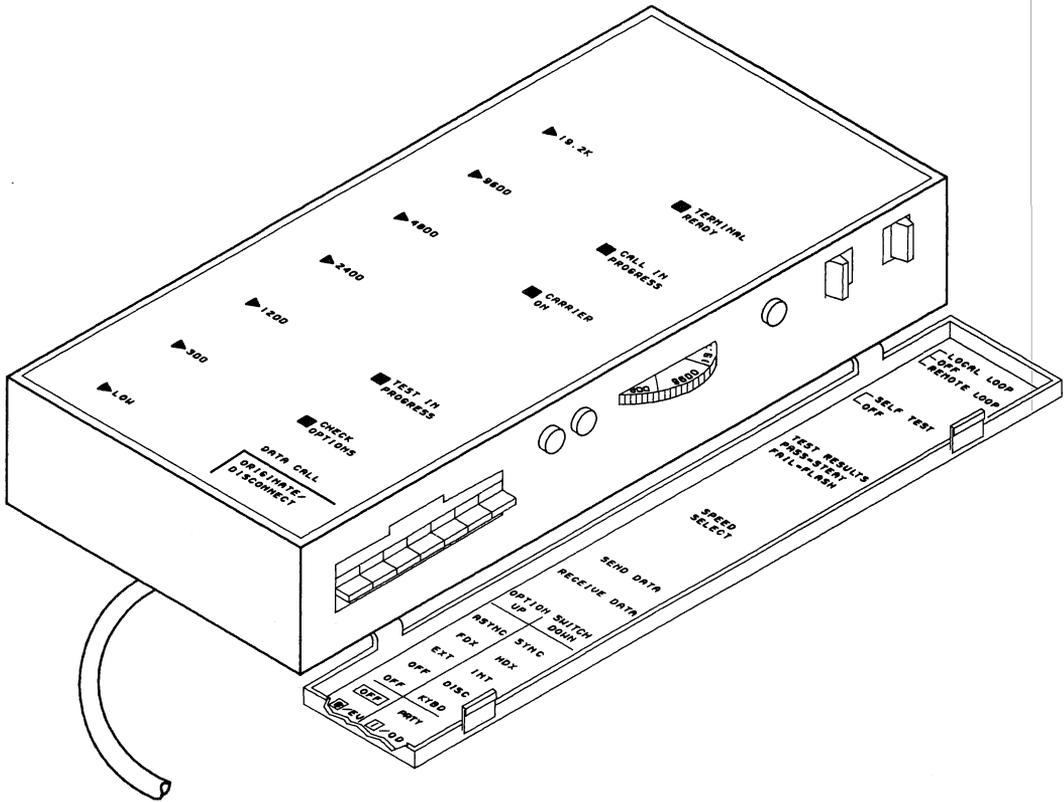

Fig. 1—Digital Terminal Data Module With Side Door Open
2.04 Diagnostic testing capabilities are provided by two paddle switches and three LED indicators located behind a hinged door located on the right side of the DTDM as shown in Fig. 1. The paddle switches and LED indicators are described as follows: